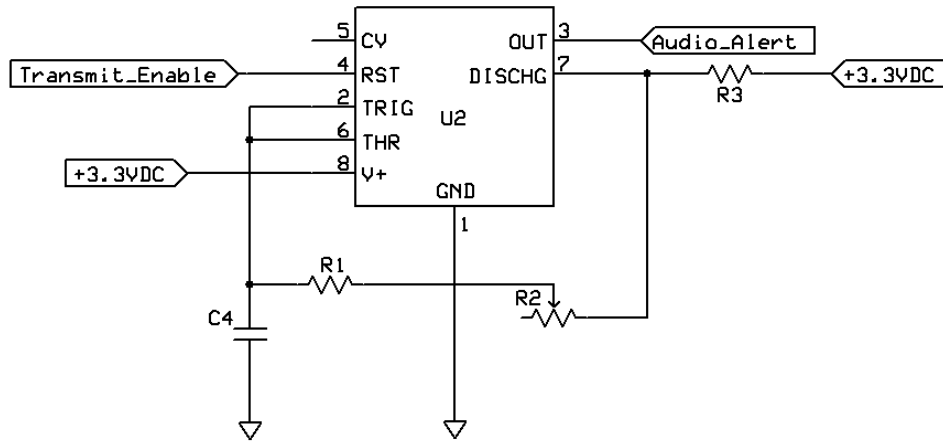

Figure 9: Transmitter Module 4.0KHz Square Wave Oscillator
Figure 9 contains the circuitry for the Simple 315MHz Transmitter Module Square Wave Oscillator. U2 is a Renesas/Intersil ICM7555IPAZ general purpose CMOS timer, configured to operate as an **astable multivibrator** (free running rectangular waveform generator). The active high Transmit_Enable input from pin 1 of J2 is routed to pin 4 of U2, the timer's active-low reset input. This logic high at pin 4 of the timer allows continuous operation of the square wave oscillator circuitry. A logic low at this input inhibits operation of U2, holding the timer's Audio_Alert output at a logic low. This reset state of the timer is concurrent with the power-down condition of the TXM-315-LR transmitter IC (U3).
For the square wave oscillator in Figure 9, pulse width (PW) is the time in which its Audio_Alert output signal at pin 3 of U2 is in a logic high state. Pin 3 holds at a logic high (nearly +3.0VDC) while capacitor C4 charges via resistors R1, R2, and R3. During this charging cycle, these three resistors are effectively in series. When capacitor C4 attains a voltage level of nearly 2/3 the supply voltage (+2.2VDC), the voltage at pin 3 falls low. During the space width (SW) of the Audio_Alert signal, C4 discharges via R1 and R2 into pin 7 of U2. At the instant the voltage over C4 decreases to 1/3 the level of the supply voltage (+1.1VDC), the output at pin 3 returns to nearly +3.0VDC and C4 begins to charge again via R1, R2, and R3. The duration of the pulse width is determined as shown by Equation 1. Here, 20KΩ trimmer resistor R2 is assumed to be set to its midpoint ohmic value of 10KΩ. As indicated in Appendix 1, capacitor C4 equals 0.01μF, R1 equals 6.8KΩ, and R3 equals 1KΩ. For the following calculations, assume the square wave oscillator has been running for several cycles and the lower threshold of capacitor voltage has stabilized at approximately 1/3 of the supply voltage (+1.1VDC).